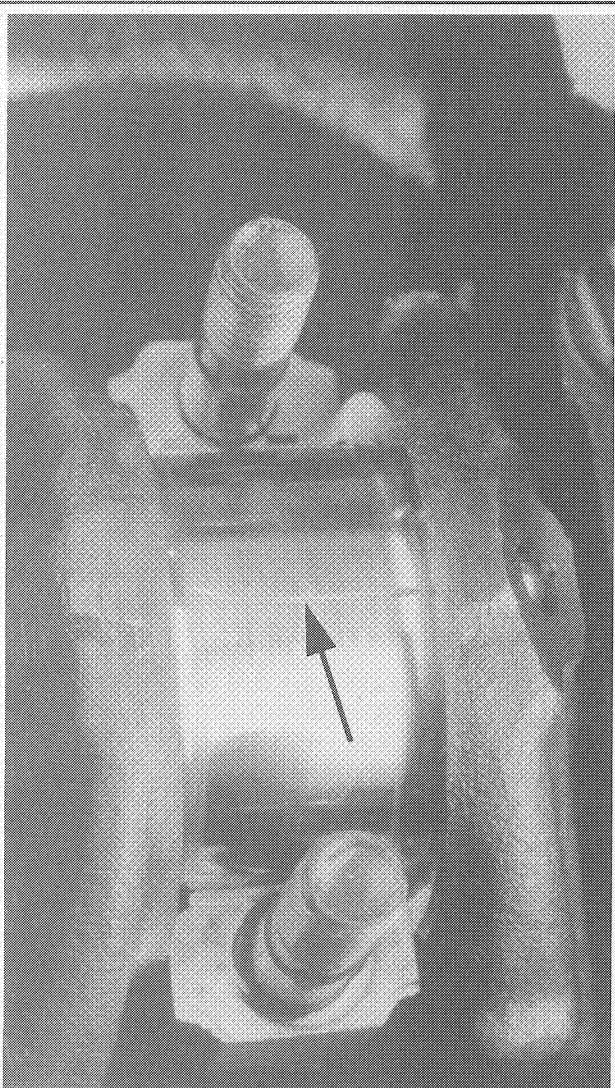

Fig. 213 Apply a strip of gauging material to the bearing journal, then install and torque the cap
▶ See Figures 213, 214, 215 and 216